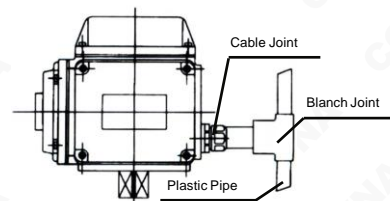

Figure 5
- As figure 5, in case the water flow into actuator interior from line locking, all wire that are not allowed to be used.